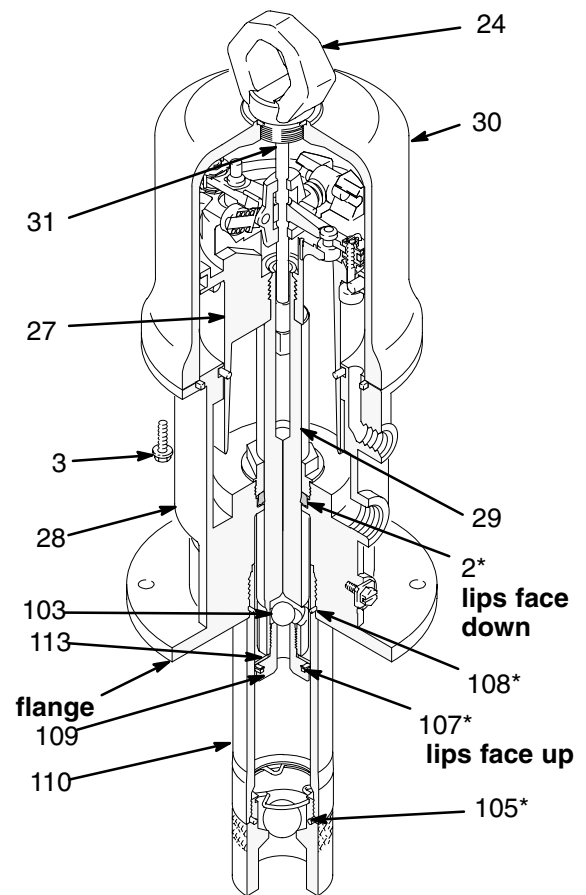
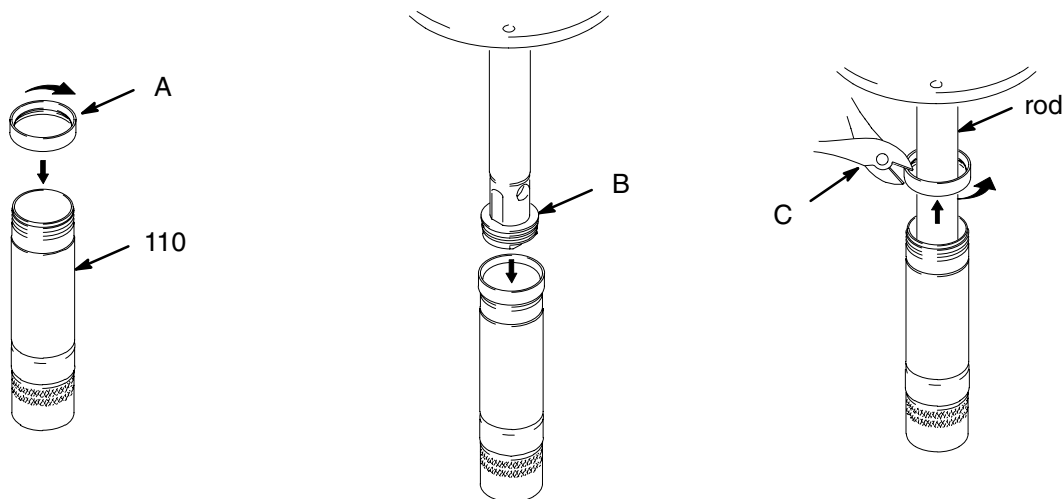

Fig. 3
Fig. 5
3. Disconnect the hoses, remove the pump from its mounting, and clamp the air motor base (28) in a vise horizontally by closing the vise jaws on the flange.
4. Use a strap wrench on the displacement pump cylinder (110) to screw it out of the air motor base (28). See Fig. 3.
5. Remove the piston/valve seat (109) from the displacement rod (29) with wrenches or with the vise and a wrench.
6. Remove the piston ball (103), seal (107*), and seal retainer washer (113).
7. Remove the air motor base from the vise, and place the displacement rod (29) flats in the vise with the air motor up.
8. Loosen the lift ring (24). Pull up the lift ring, grip the trip rod (31) with the padded pliers, and screw the lift ring off of the rod.
- Grip the trip rod (31) with padded pliers, screw the lift ring (24) onto the trip rod, push the lift ring down, and screw it into the top of the cylinder.
- Install the seal (107*) with the lips up, and place the seal retainer washer (113) on the piston/valve seat (109). *Make sure the lips of the seal face up.* See Fig. 3.
- Place the piston ball (103) in the displacement rod (29).
- Clean the threads of the piston/valve seat (109), Apply Loctite® to the threads, and thread the assembly from Step 16 onto the displacement rod (29).
- Clamp the flats of the piston/valve seat (109) in a vise, and torque the displacement rod (29) to the piston valve seat to 45 to 55 ft-lb (61 to 75 N.m).
- Clamp the air motor base (28) in a vise horizontally by closing the vise jaws on the flange
- Thread piston assembly tool (A) (included in repair kit 238751) onto the threads of the displacement pump cylinder (110). See Fig. 5.
- Insert the piston assembly (B) into the displacement pump cylinder.
- Unscrew the piston assembly tool from the displacement pump cylinder. Clip the piston assembly tool with a diagonal cutter (C), and discard it.
- Use a strap wrench to screw the displacement pump cylinder (110) to the air motor base (28). See Fig. 3.